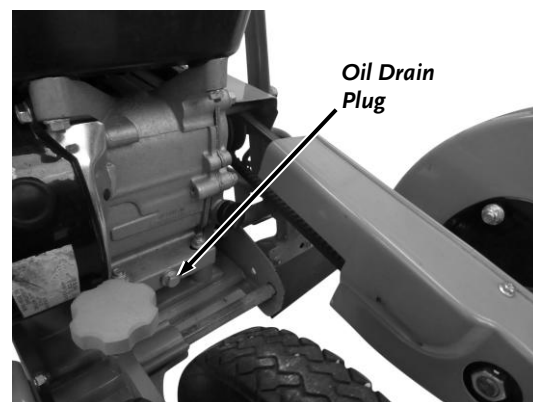

Figure 17
1. Position the machine so the Frame and Engine are level and place a Waste Oil Container under the Oil Drain Plug (**Figure 17**).